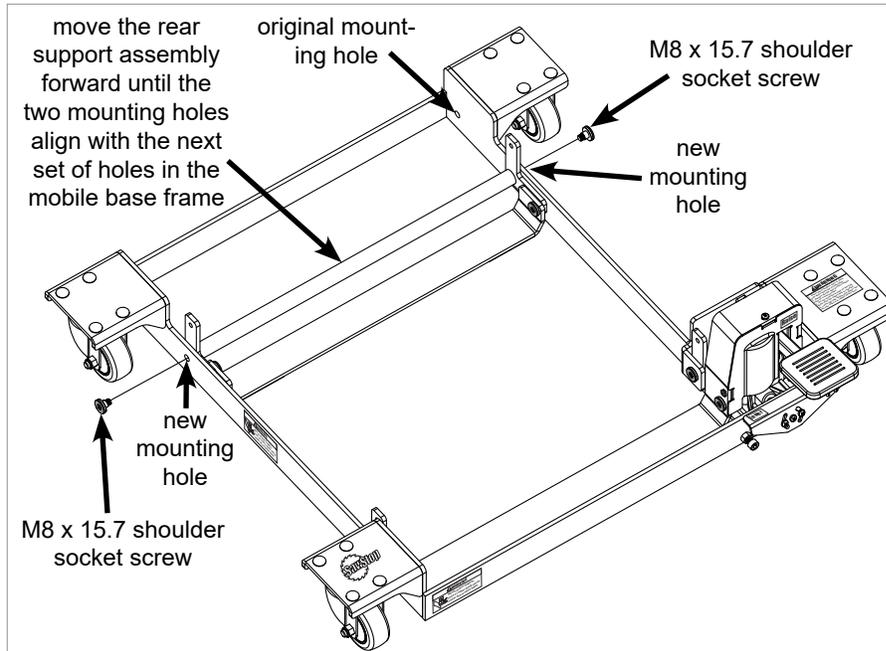

Fig. 4
4. Take the rear support assembly and move it forward until the two mounting holes align with the next set of holes in the mobile base frame, as shown in Fig. 4. Mount the rear support assembly to the mobile base frame with two new M8 x 15.7 shoulder socket screws from the hardware bag. Fully tighten the two M8 x 15.7 shoulder socket screws with a 5 mm hex key.